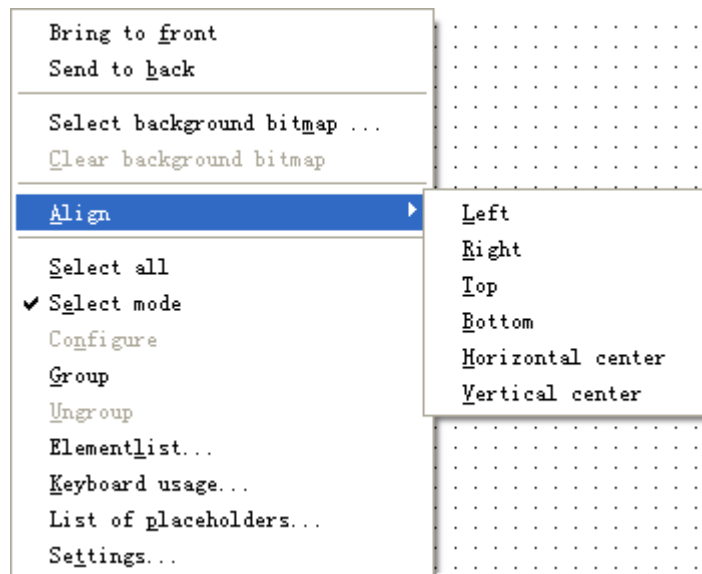

Figure 11-3-1 Context Menu of Visualization
- Click the right mouse key in the visualization editor a menu appears, as shown in figure 11-3-1.